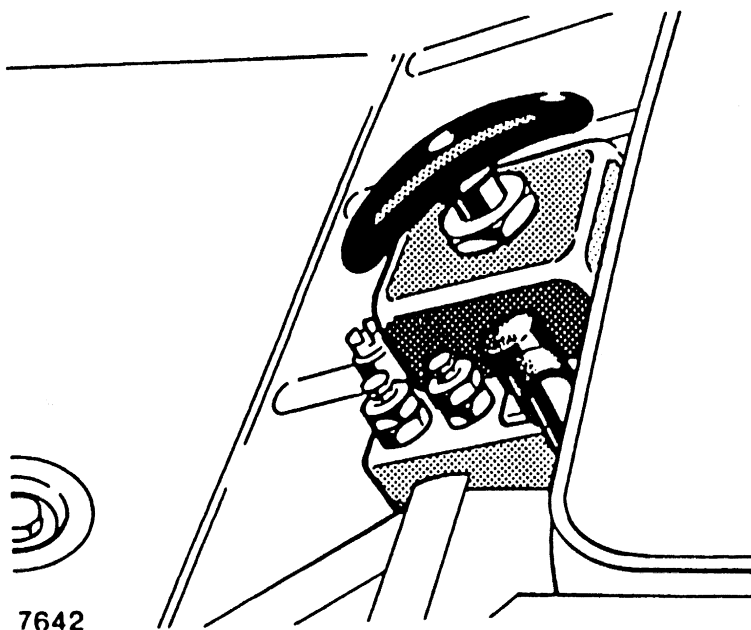

Fig 1 Battery master switch
1. This switch (Fig 1) is positioned beneath the right-hand seat in the cab. When the switch is in the 'OFF' position, the battery is completely isolated from the rest of the vehicle. The switch positions are marked on the switch top cover.